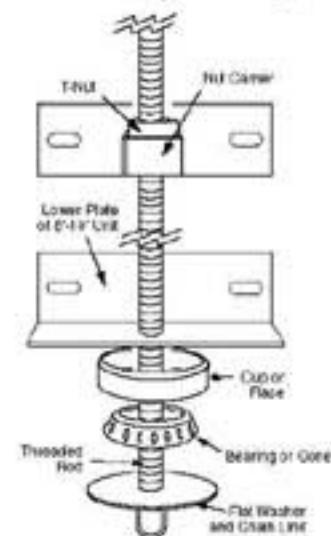

Figure 3
- ① Attach Nut Carrier and T-Nut to Height Adjuster.
- ② Install Threaded Rod Assembly through T-Nut and Nut Carrier (see Fig. 3).
- ③ Apply entire tube of lubricant (included) to T-Nut from top and bottom. As the threaded rod operates through the T-Nut, the lubricant will be spread onto the threaded rod as necessary.
- ④ Test operation.